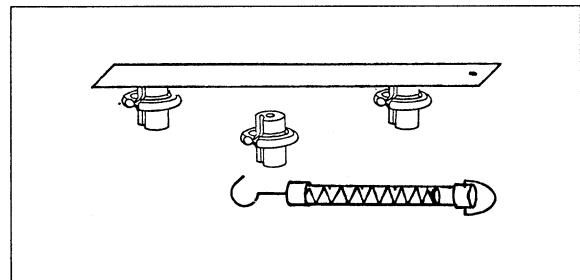

Fig. 1 ► 1.
1. Lay out all the items of apparatus ready for use, as shown in fig. 1. Place the leaf spring on top of two weights.
► Fig. 1.